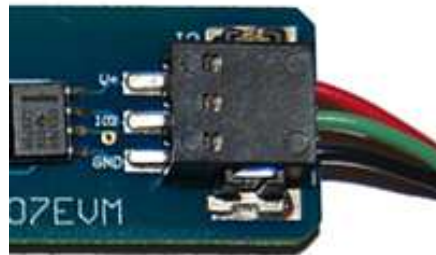

Figure 4. Three-Conductor Cable Connection
3. If not already connected, attach the three-conductor cable to J2; see Figure 4.
Connect the three bare wires on the three-conductor cable to the three-conductor, press-fit socket (J2) on the TMP107EVM motherboard, as shown in Figure 4. Take special care to make sure that the three wires are inserted all the way and make good electrical contact with the socket, and that the red wire goes to V+, the green wire goes to IO2, and the black wire goes to GND. Plug the male USB-A adaptor on the TMP107EVM motherboard into an available USB port on the computer. This cable can be removed by inserting something rigid (like one side of a pair of tweezers) into each of the rectangular holes above each wire to release the wire clamps inside socket J2. Releasing the clamp can also help with wire insertion if the bare wire bends in the socket when pressure is applied.
With the TMP107EVM properly connected (see Figure 4), launch the EVM GUI software from the Windows *Start* menu. This software is titled *TMP107 EVM* and is located in a folder called *Texas Instruments*. The software launches with an initialization screen like that shown in Figure 12.